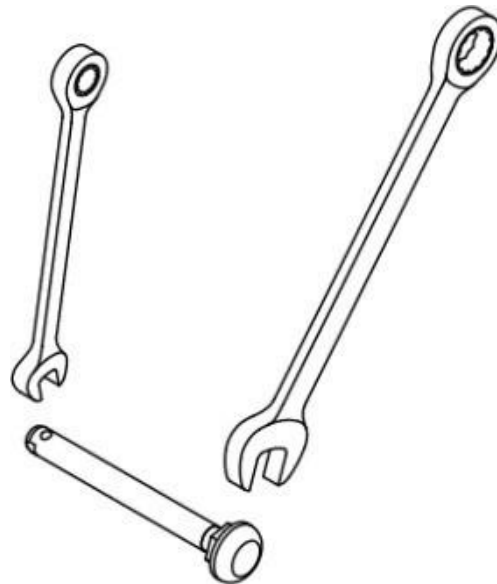

Fig. 12: Quick Release Axle Adjustment.
1. Using a 9/16" open end wrench, securely hold the detent ball end of the axle. (See Figure 12)